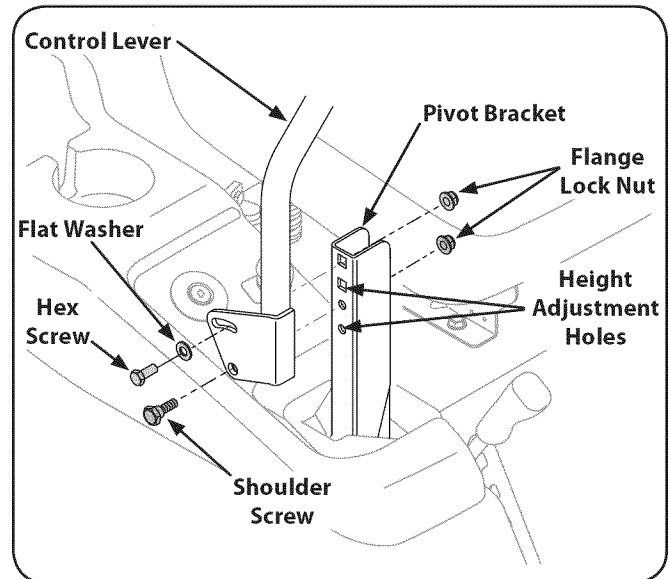

Figure 6-5
To adjust the position of the seat, pull up and hold the seat adjustment lever. Slide the seat forward or rearward to the desired position; then release the adjustment lever. Make sure seat is locked into position before operating the tractor. See Fig. 6-5.
- While supporting the control lever to keep it from falling, remove the hex insert flange lock nut and shoulder screw from the bottom of the control lever and pivot bracket. Refer to Fig. 6-5.
- If not already loose, loosen the flange lock nut and rotate the control lever either forward or rearward to the desired position. See Fig. 6-5.